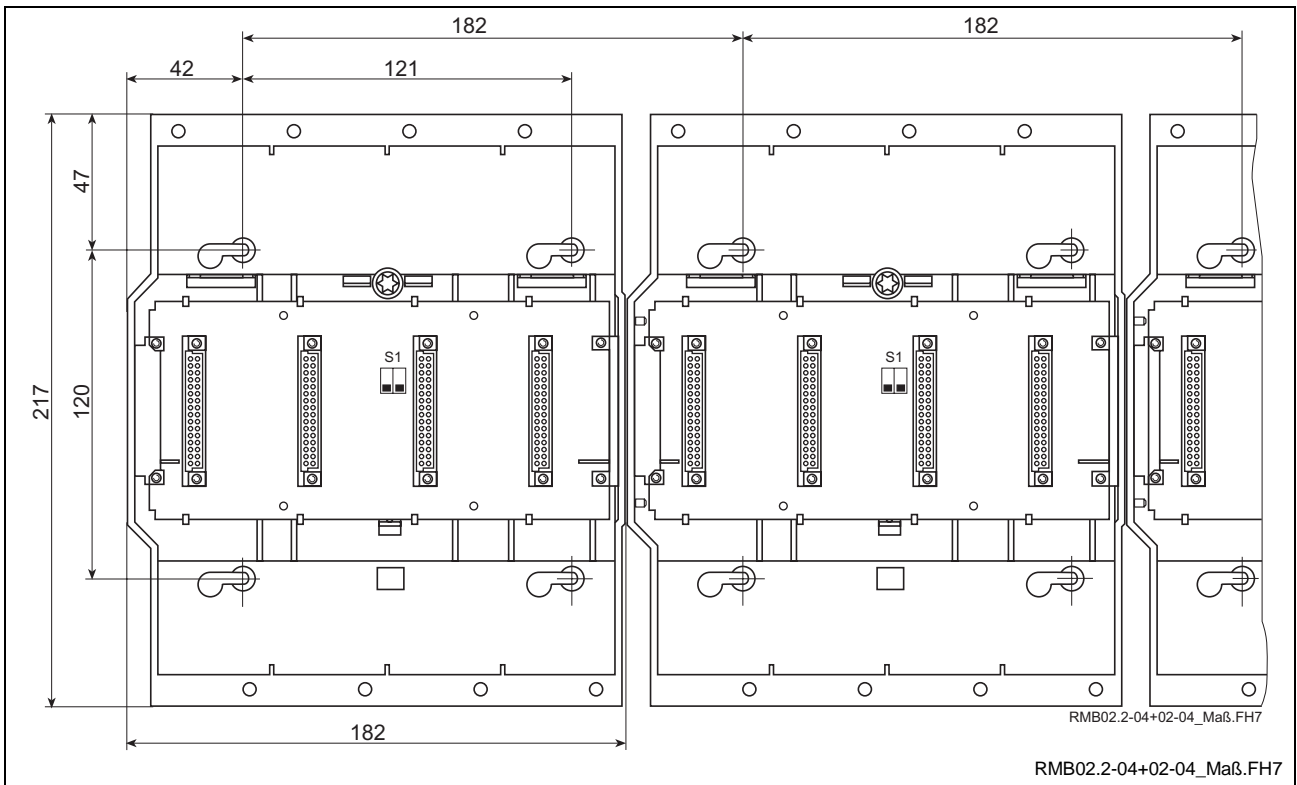

Fig. 4-5: Connection of several RMB02.2-04 module carriers
Install the RMB02.2-02 and RMB02.2-04 module carriers by engaging them on a DIN TS 35x27x15 top hat rail and by fixing them by means of a locking screw. It is also possible to mount the module carriers directly on the mounting plate in the control cabinet through the holes provided in the module carrier (see Fig. 4-5 module carrier).
**Note:** Before startup, the locking screws of the module carriers must be tightened securely, so that the module carriers are prevented from moving sideways and, thus, the connectors between the module carriers from loosening (for the position of the screws see Fig. 4-5)! In addition, the modules must be screwed to the module carrier. Connectors and modules may **not** be fitted or removed under tension!